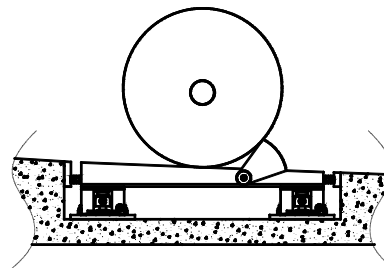

Figure 6-15: Coil Scale, Live Stop
- **Coil Scale, Live Stop:** With this type of scale, the coil rolls down an incline onto the scale and is stopped and held in place by a stop mounted on the live scale. After weighing, the stop is retracted and the coil rolls off the scale. Generally, settling time is not important. Severe horizontal forces result when the coil hits the stop. Instead of using stabilizers, it is better to let the scale float freely until it hits external bumpers. The face of the retractable stop should be lined with a compliant (spring-type) material. The bumper gap should be small enough so that the platform bumps against the external bumpers before contacting the weigh module's bumpers (see Figure 6-15). NOTE: Although stabilizers are not required for this type of dynamic scale, we recommend using external stops or checking.